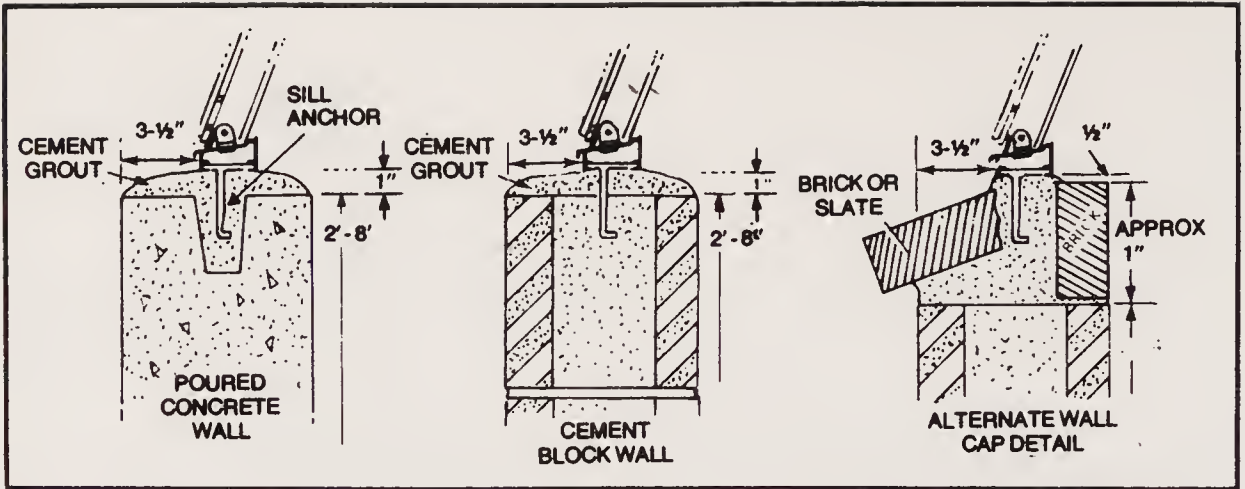

Fig. 1-24. Cementing the sills—to be done after glazing (courtesy of Lord & Burnham).
- ☐ Remove wood leveling blocks and cement in sills (Fig. 1-24).